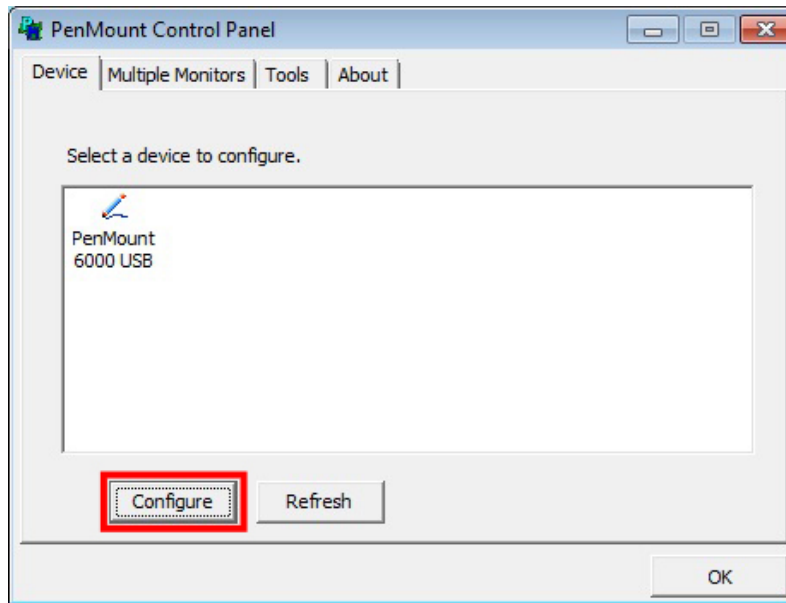

Figure 6-36: Touchscreen Control Panel
Step 3: The touchscreen control panel appears (**Figure 6-36**). Click **Configure**.